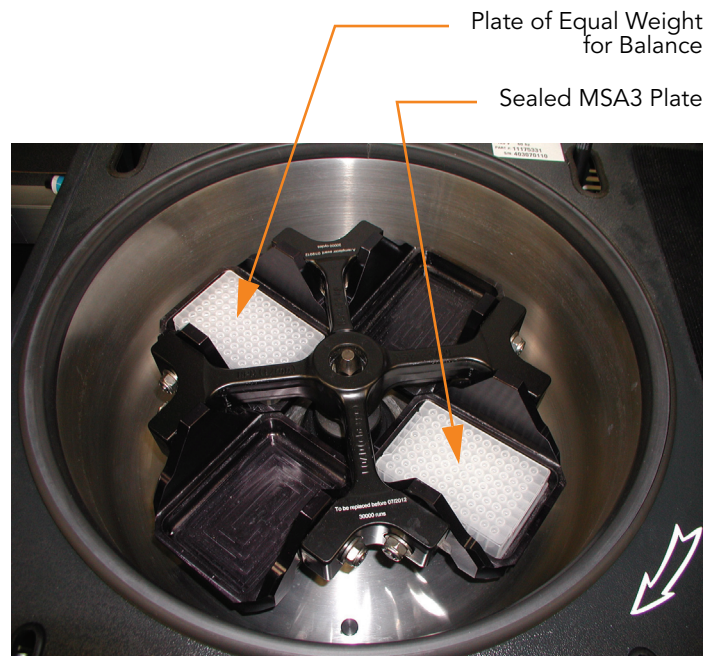

Figure 30 Balancing MSA3 Plate in Centrifuge
11. Place the sealed MSA3 plate in the centrifuge opposite another plate of equal weight (Figure 30).